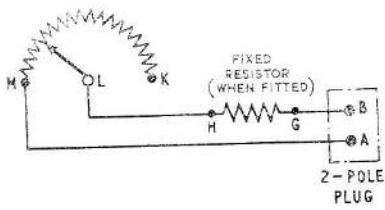

Fig. 4. Typical temperature selector,
6. A brass cover drum (7), upon which is mounted a 2-pole Mk. 4 plug (6), encloses the potentiometer and mounting disc, being secured to the latter by three countersunk head screws. The potentiometer, brush, and (where fitted) fixed resistor connections, are taken within the cover drum to the plug. Where a fixed resistor is fitted and is external to the potentiometer (9), it is secured by two bolts and two tubular mounting pillars to the inside of the cover drum.
7. The circuit diagram of a typical selector is shown in *fig. 4*.
A resistor, external to the potentiometer, of value 370 ± 1 ohms is fitted in this selector. The internal connections are as shown in fig. 4 of the main chapter. The dial markings are COOL, NORMAL and WARM.
A resistor, external to the potentiometer and of value  $421 \pm 1$  ohms, is fitted in this selector; the internal connections are as shown in fig. 4 of the main chapter. The dial is marked COOL, NORMAL and WARM, and in addition has 10 lines.
A  $370 \pm 1$  ohms resistor is fitted externally to the potentiometer in this selector; the internal connections are as shown in fig. 4 in the main chapter. Dial markings are COOL, NORMAL and WARM.